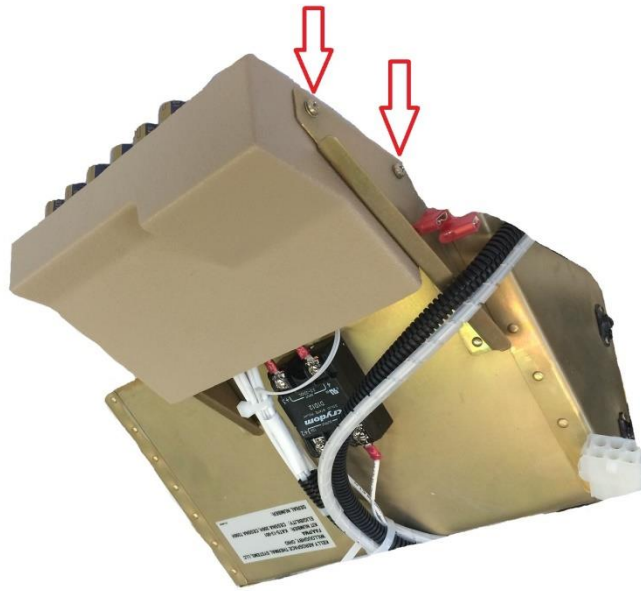

Figure 6 - Attach Aft End Between Bracket and Controller
- E. Install AC-01995 Controller Cover by removing the two screws and washers on the aft end of the controller and set aside for re-use. Slide the Cover in between Controller and the Bracket orientated as shown. Re-install the screws and washers. See Figure 6.